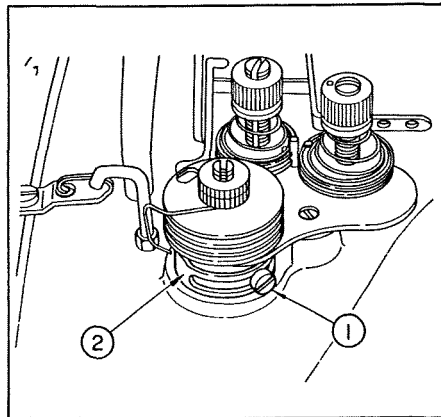

Fig. 14
To change the stroke of the thread take-up spring, loosen the screw ① of Fig.14 and slide the stopper ② to the right for increasing and to the left for decreasing.